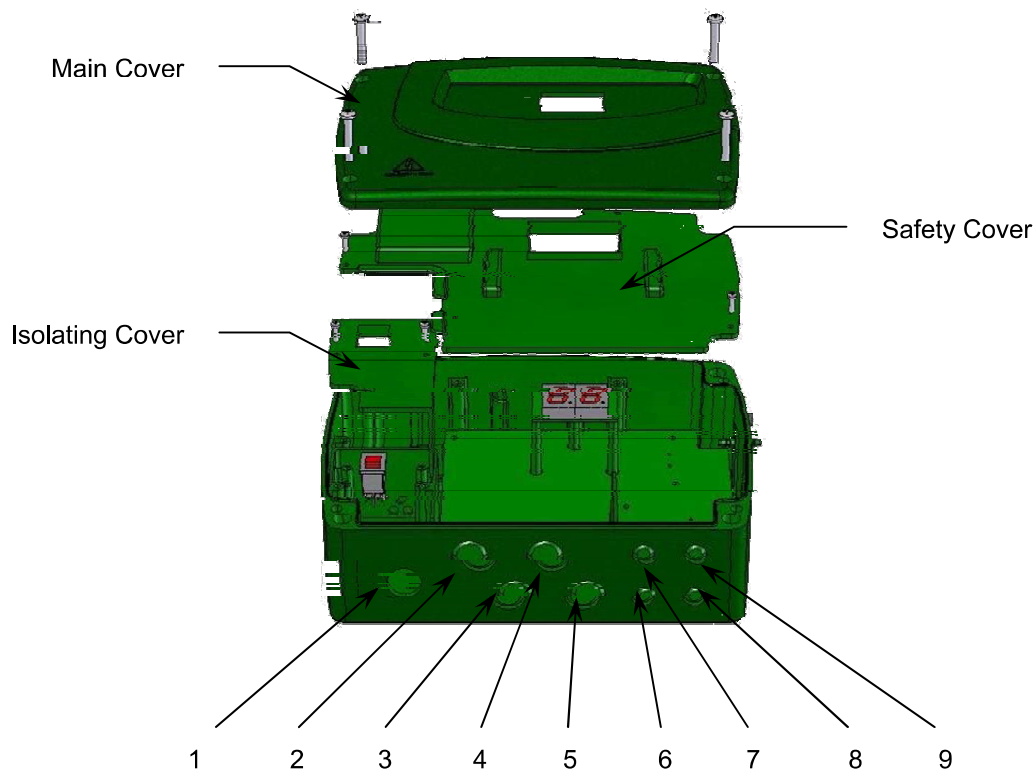

Figure 1 : Control Panel
- 3.3.4 Using a suitable M20 gland, feed the mains power supply through Gland Hole 1 (Figure 1). Wire the mains supply to the terminal blocks following the guide on the connections.
- 3.3.6 Using a suitable M20 gland, feed the motor power supply cable through Gland Hole 4 (Figure 1) and terminate to connections 5 & 6 (TB3) following the guide on Table 2.
- 3.4.1 Using a suitable M20 gland, feed the pump power cable through Gland Hole 2 (Figure 1) and terminate to connections 1 & 2 (TB1) following the guide on Table 2.
- 3.5.1 Using a suitable M20 gland, feed the integral discharge pump power cable through Gland Hole 3 (Figure 1) and terminate to connection 3 & 4 (TB2) following the guide on Table 2.
- 3.6.1 Using a suitable M20 gland, feed the chemical dosing pump power cable through Gland Hole 5 (Figure 1) and terminate to connections 7 & 8 (TB4) following the guide on Table 2.
- 3.6.2 Using a suitable M12 gland, feed the chemical dosing probe cable through Gland Hole 8 (Figure 1) and terminate to connections 13, 14 & 15 (TB7) following the guide on Table 2.
- 3.7.1 Using a suitable M12 gland, feed the loss of rotation alarm cable through Gland Hole 6 (Figure 1) and terminate to connection 9 & 10 (TB5). The two contacts are not position sensitive.
- 3.8.1 Remove the link in the terminal blocks between connections 11 & 12 (TB6) before inserting cables. Using a suitable M12 gland, feed the high level alarm float cable through Gland Hole 7 (Figure 1) and terminate to connection 11 & 12 (TB6) following the guide on Table 2.
- 3.9.2 Using a suitable M12 gland, feed the cable from the beacon through Gland Hole 9 (Figure 1) and terminate to connection 16, 17 & 18 (TB8) following the guide on Table 2.